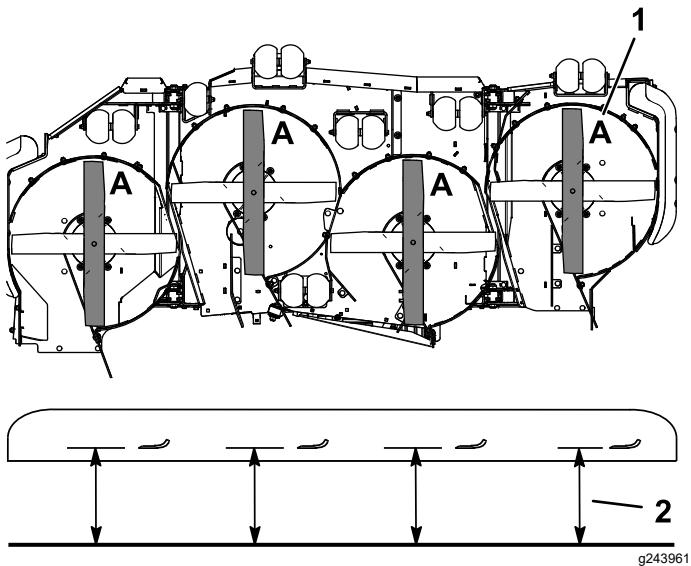

Figure 74
3. Rotate the blades until the ends face forward and backward (Figure 74).
4. Measure from a level surface to the cutting edge, position A, of the blades (Figure 74).